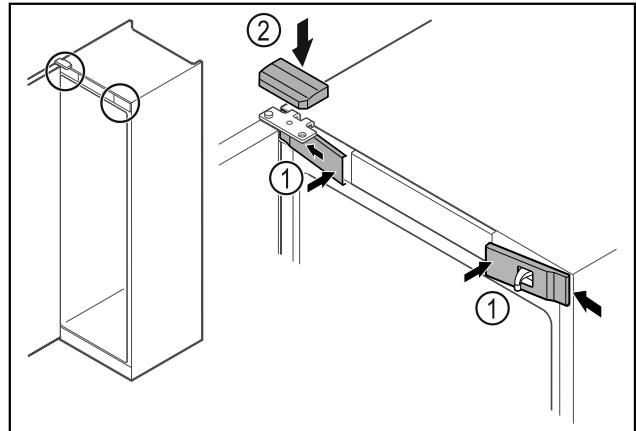

Fig. 52
- ▶ Hook in the front covers *Fig. 52 (1)* on the side and snap them into place.
- ▶ Snap on the top cover *Fig. 52 (2)* from above.